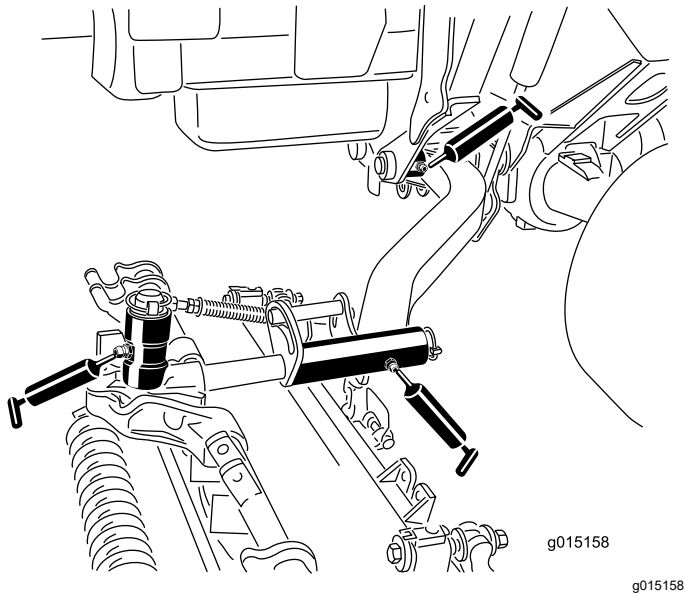

Figure 52
- Lift arm pivot bushings (1 per cutting unit) (Figure 52)
- Cutting unit carrier frame (2 per cutting unit) (Figure 52)
- Cutting unit lift arm pivot (1 per cutting unit) (Figure 52)